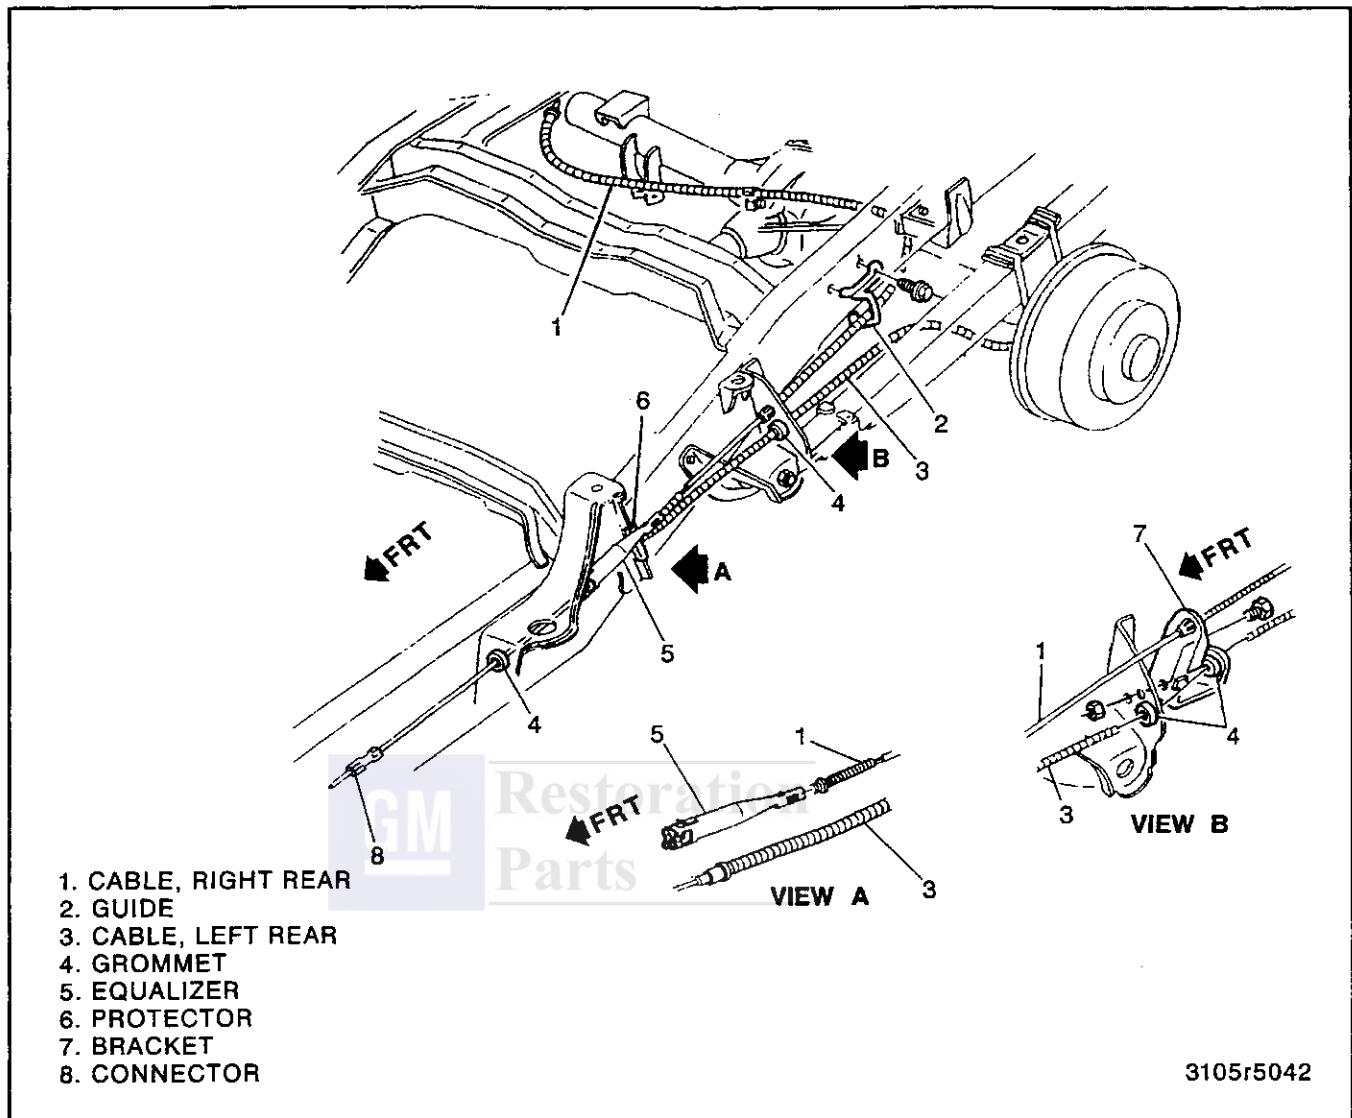

Figure 3—Rear Parking Brake Cable
2. Loosen adjusting nut (13) at equalizer (12) (figure 3).
3. Connector (8).
4. Cable (5) from parking brake lever (1).
5. Front cable (5).
Remove or Disconnect (Figure 3)
Install or Connect (Figure 3)
Adjust (Figure 3)